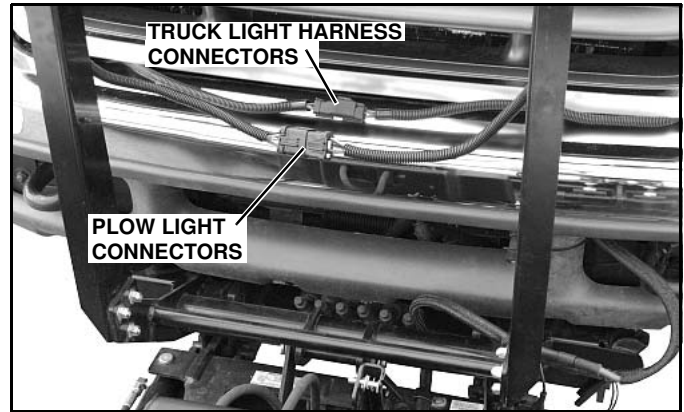

Figure 1-27
3. To prevent corrosion on the contacts, plug the male and female connectors on the plow together (See Figure 1-27).
4. To make the truck lights operable, plug the male and female connectors on the truck light harness together (See Figure 1-27).